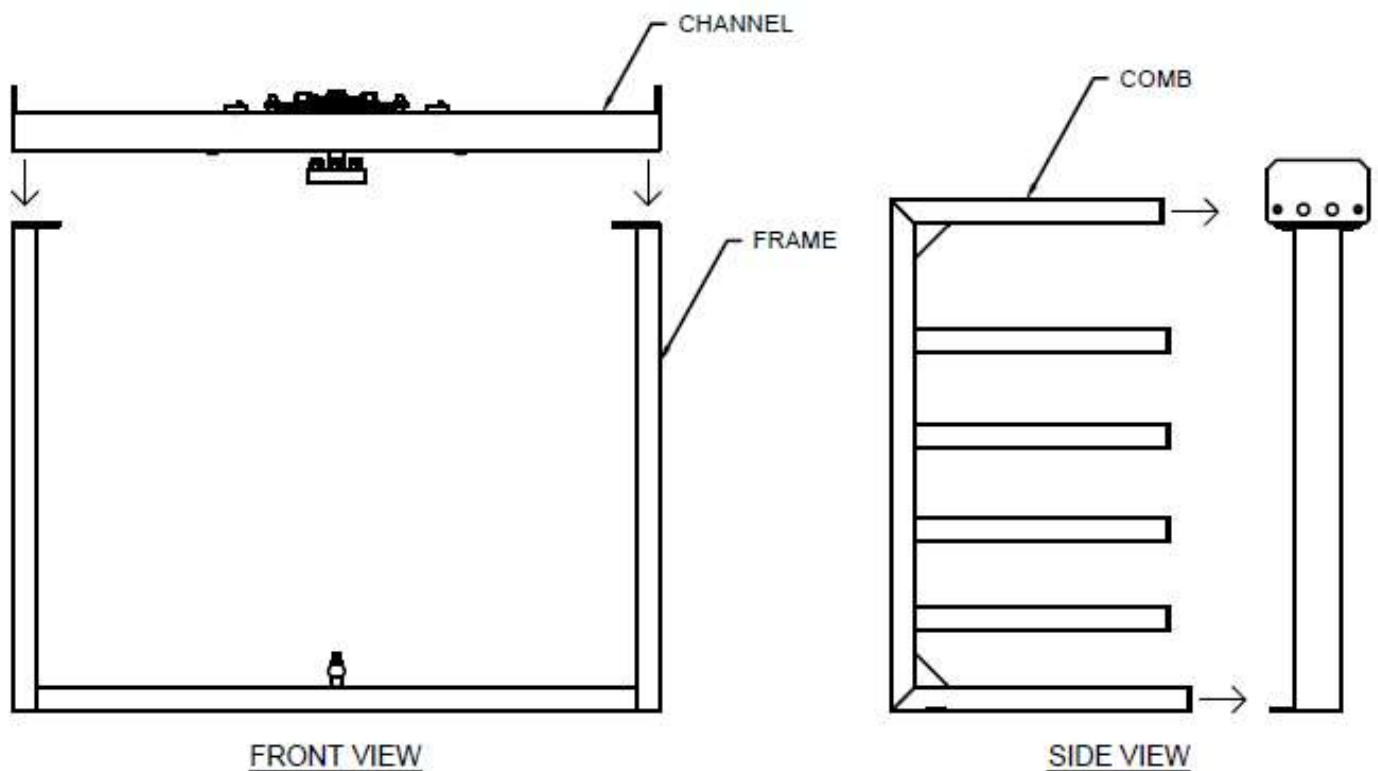

Figure 9: Single Frame Assembly
- 4.2. Connect the frame with the channel and the comb as shown in *Figure 9: Single Frame Assembly*.